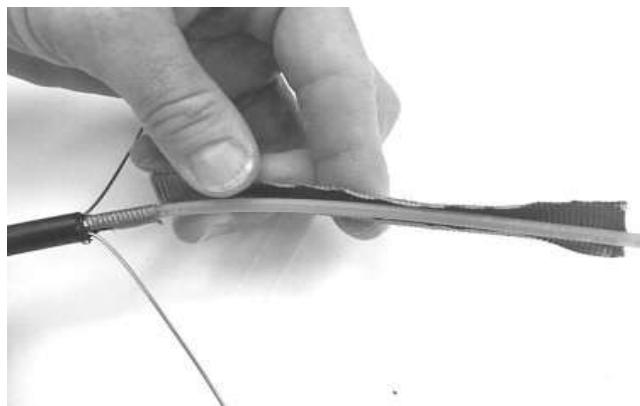

Figure 7 – Peel off the armor.
4.8 Snip the armor again about 5" from the first location. Use a sheath knife to open the armor overlap between the two locations. Peel off the armor to expose the core tube (Figure 7).